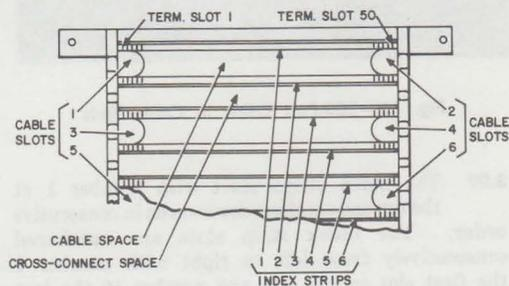

Fig. 14—Numbering Plan for 88-Type Wiring Block
(1) When station or equipment cable enters from the top, use No. 6 twine with a weight. Drop behind wiring block and use wire hook to fish through proper cable slot. Pull cable down through cable slot.
(2) When cable enters from the bottom, drop weighted No. 6 twine through proper cable slot and down behind the wiring blocks. Pull cable up through cable slot.
3.06 Cable slots are numbered with the odd numbers on the left and the even numbers on the right, from top to bottom (Fig. 14). In the red field, only the odd number cable slots on the left side are used.